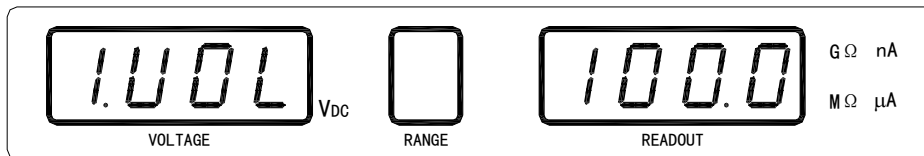

Figure 3-12 Main Setup Menu
- 1) Press **SET/ENTER** key in the discharge status to enter the main setup menu as shown in the following figure 3-12.